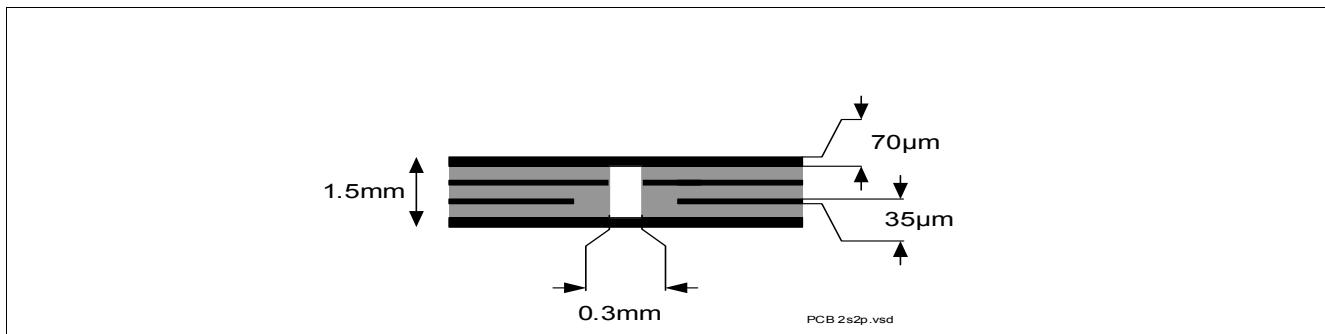

Figure 4 2s2p PCB Cross Section
2) Specified  $R_{thja}$  value is according to JEDEC JESD51-2,-5,-7 at natural convection on FR4 2s2p board; The product (chip + package) was simulated on a 76.4 x 114.3 x 1.5 mm board with 2 inner copper layers (2 x 70  $\mu$ m Cu, 2 x 35  $\mu$ m Cu). Where applicable, a thermal via array under the exposed pad contacts the first inner copper layer. Please refer to Figure 4.